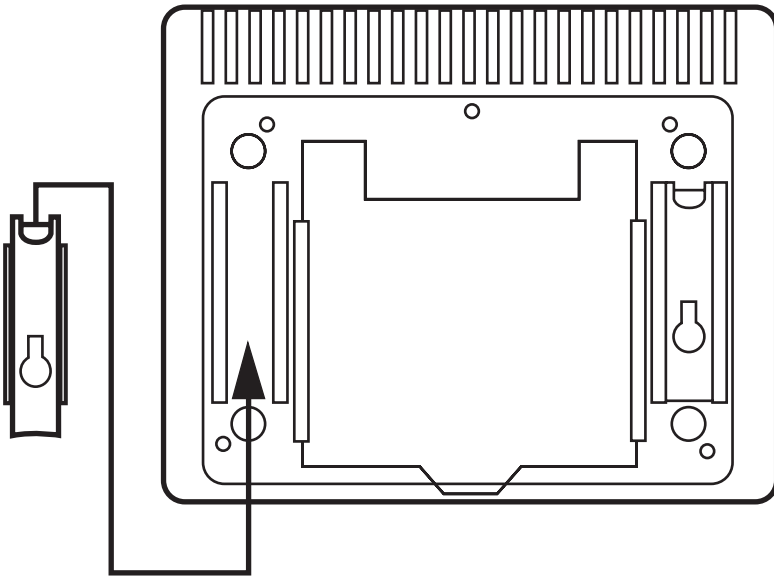

Figure 4-1. Connecting wall-mount brackets.
1. Slide the wall-mount brackets into the 2 wall-mount sockets, as shown in **Figure 4-1**.